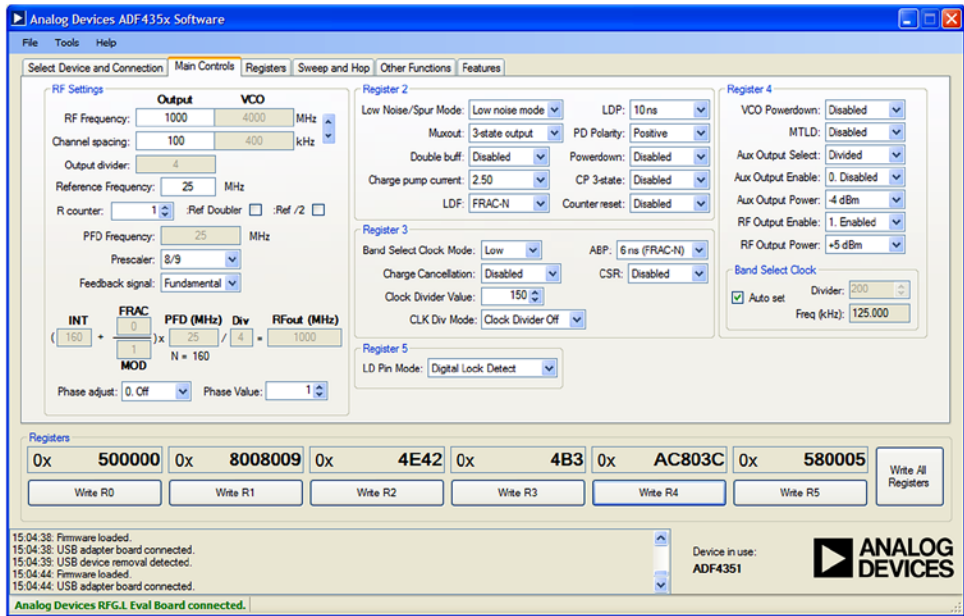

Figure 3. ADF4351 Software Settings
2. Program the ADF4351 PLL as per the screenshot of the ADF435x software (see Figure 3). In this example, an RF frequency of 1 GHz is chosen.